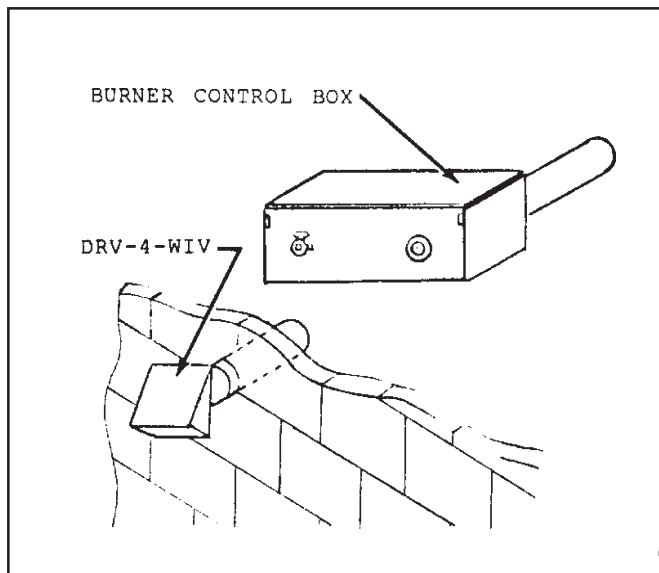

Figure 2.19
If the building has a negative pressure condition or if contaminants such as solvents, foreign particles or corrosive vapors are in the air, then outside combustion air must be supplied directly to the heater (see Figure 2.19).
- A wall inlet vent with screen (#WIV-4) **must** be used for an outside air inlet through the wall (see Figure 2.19).